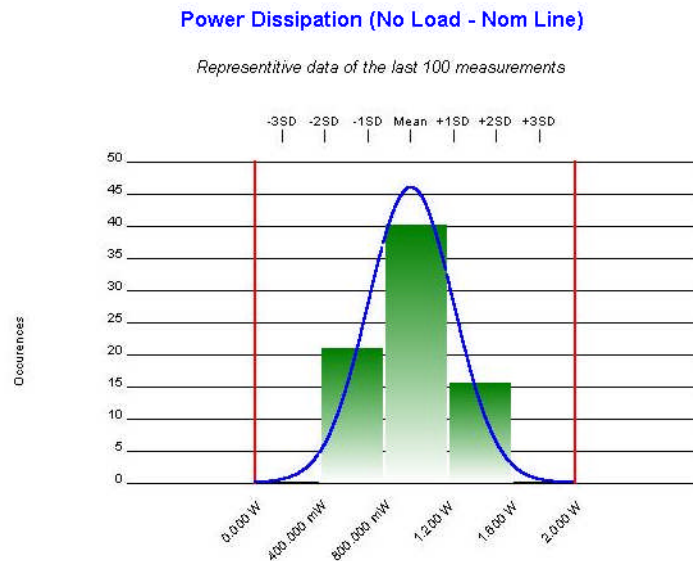

Figure 106 – Graph image with 5 Histogram Bins
2. Greater-than 0, and less-than 101 – Figure 106 shows the graph image created when 5 is entered in the Histogram Bins field